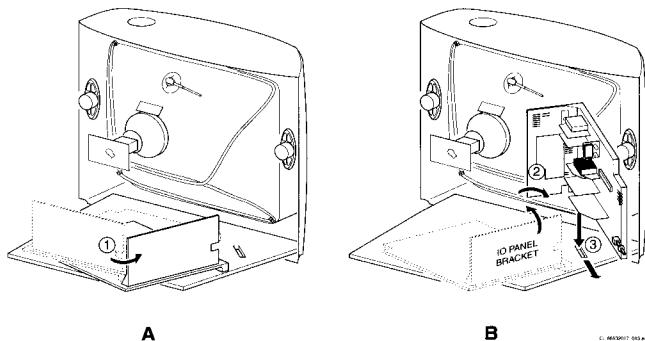

Figure 4-3
4.2.3 Environment independent position (figure 4.3)